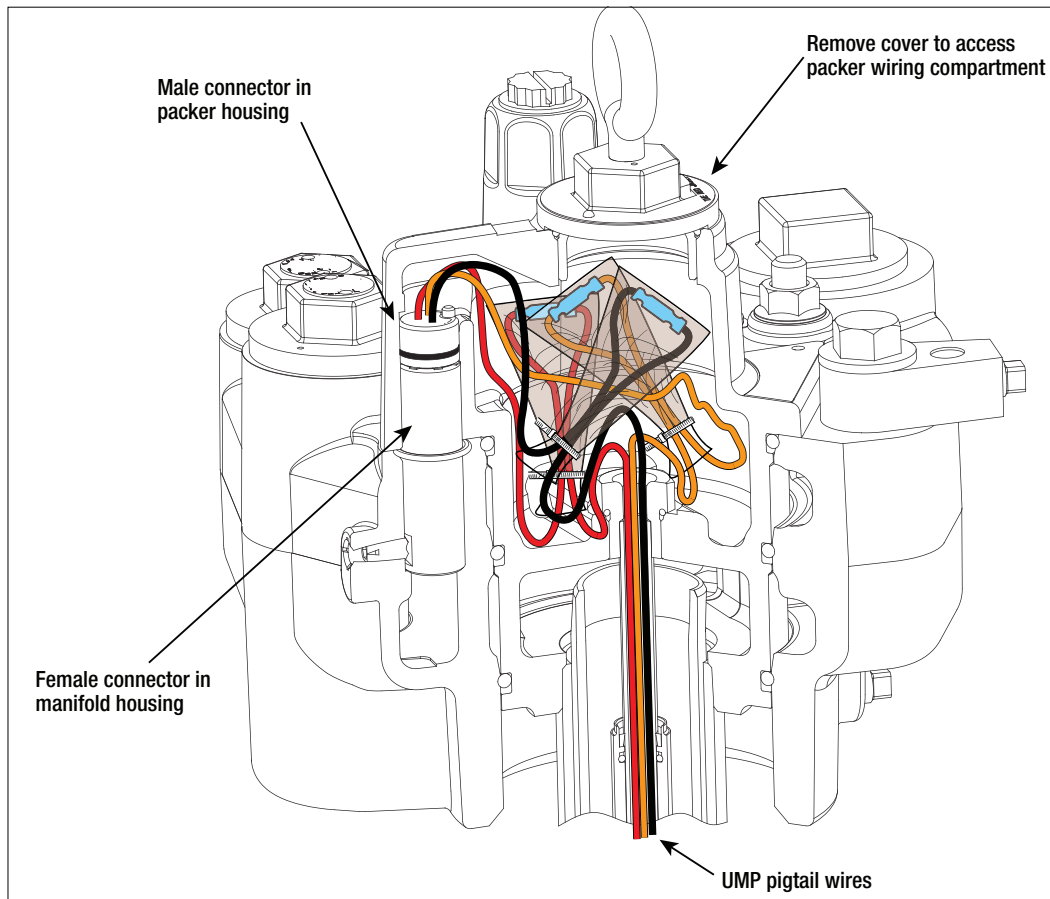

Figure 15. Connecting UMP to Packer Wiring
16. When finished sealing the wires, coil the wires inside the packer's wiring compartment as neatly as possible (see Figure 15). For clarity, the epoxy packs are shown transparent.